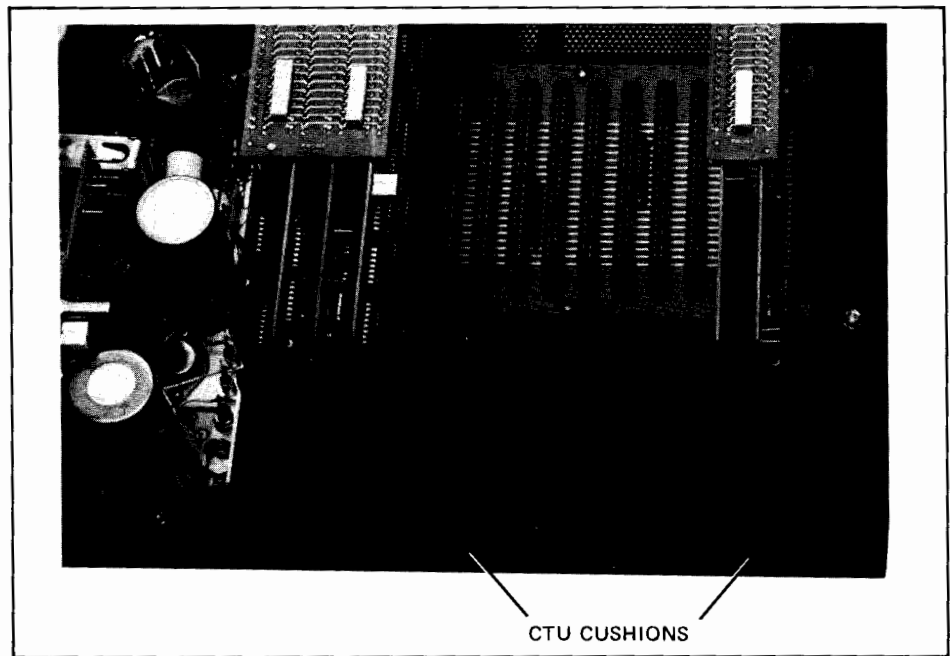

Figure 2-22. CTU Cushion Location
5. Remove backing paper from CTU cushions supplied in accessory package. Press cushions into place on mainframe shell as shown in figure 2-22.